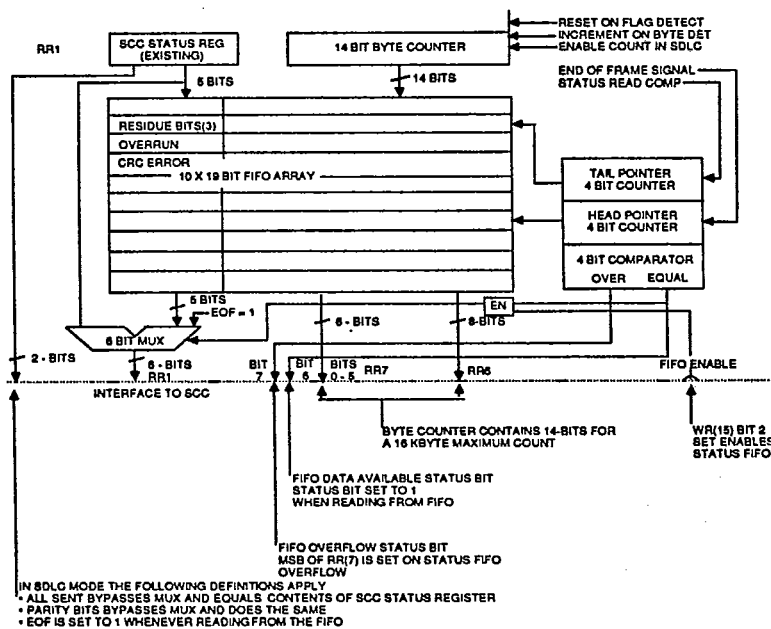

Figure 18. SCC Status Register Modifications.
Additional logic was added to the industry standard NMOS SCC consisting of a 10 deep by 19 bit status FIFO, 14-bit receive byte counter, and control logic as shown in Figure 18. The 10 x 19 bit status FIFO is separate from the existing three byte receive data FIFO.
**FIFO Detail.** For a better understanding of details of the FIFO operation, refer to the block diagram contained in Figure 18.
**Byte Counter Detail.** The 14-bit byte counter allows for packets up to 16K bytes to be received. For a better understanding of its operation refer to Figures 18 and 19.